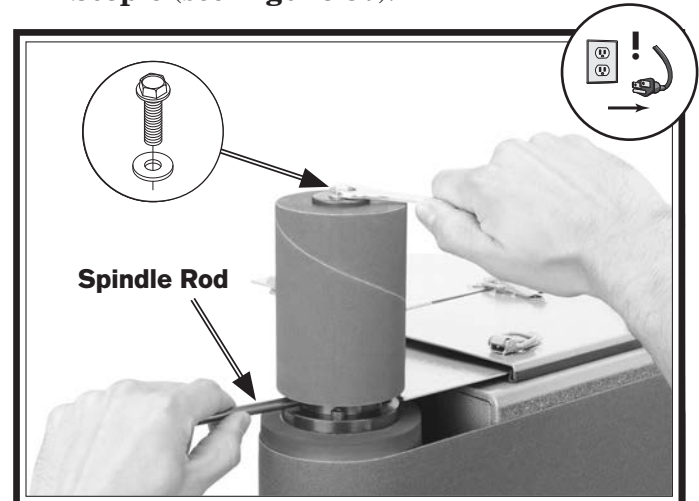

Figure 57. Anchoring spindle to tighten flange bolt.
6. Slide desired sanding drum onto spindle and secure with (1) $\frac{5}{16}$ "-18 x $\frac{1}{2}$ " flange bolt and $\frac{5}{16}$ " flat washer (see **Figure 57**).
7. Insert spindle rod into hole in base of spindle to anchor it and tighten flange bolt from **Step 6** (see **Figure 57**).